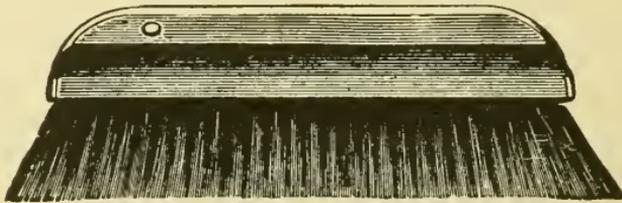
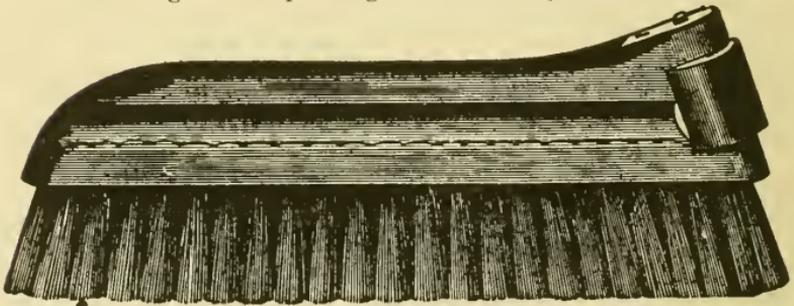

Fig. 25—Paperhanger's Smoothing Brush.
Fig. 26.
r. *Paper hangers' smoothing brushes* are made from one to four rows of stiff bristles, wire drawn, in several qualities and are sized according to the length of head from 10 to 14 inches wide. Fig. 25 shows the ordinary smoothing brush and Fig. 26 the combination smoothing brush and seam roller.